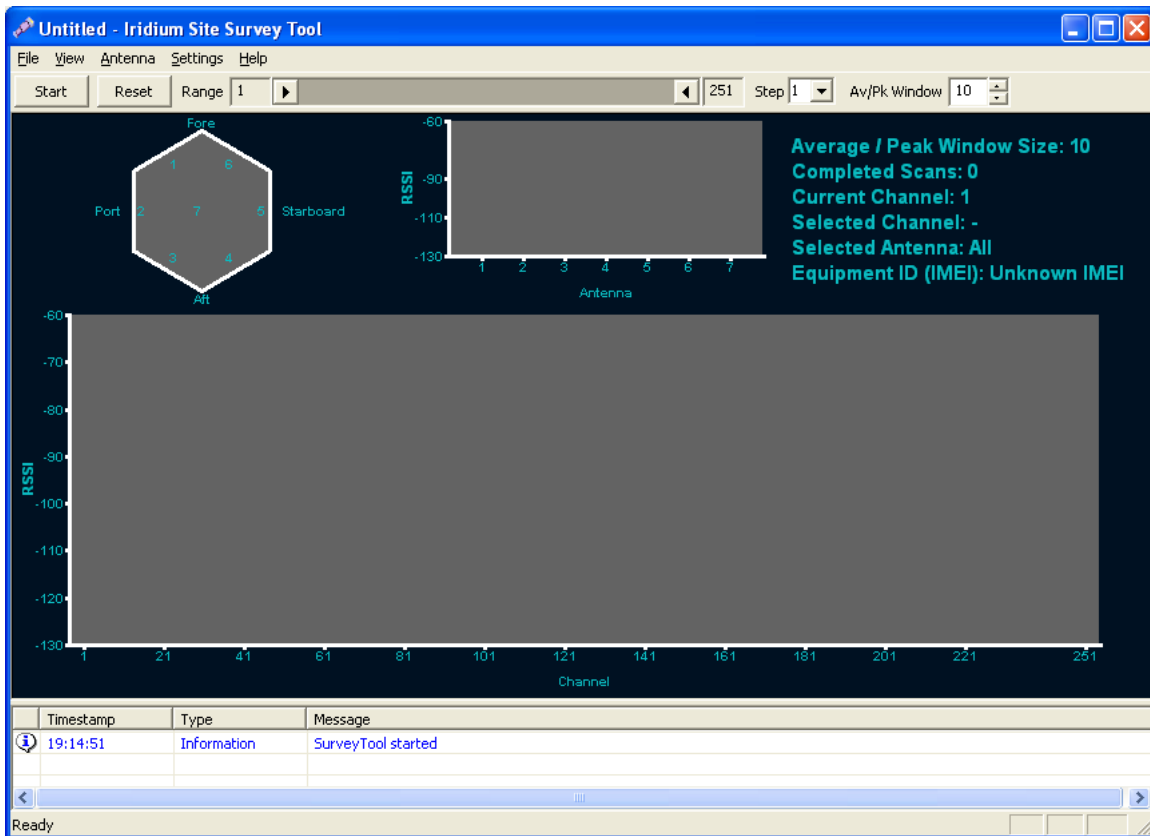

Figure 2 : Iridium Site Survey tool - Main Screen
3. Double-click 'SurveyTool.exe' to run the program. The survey tool will then open a window, as shown in Figure 2.